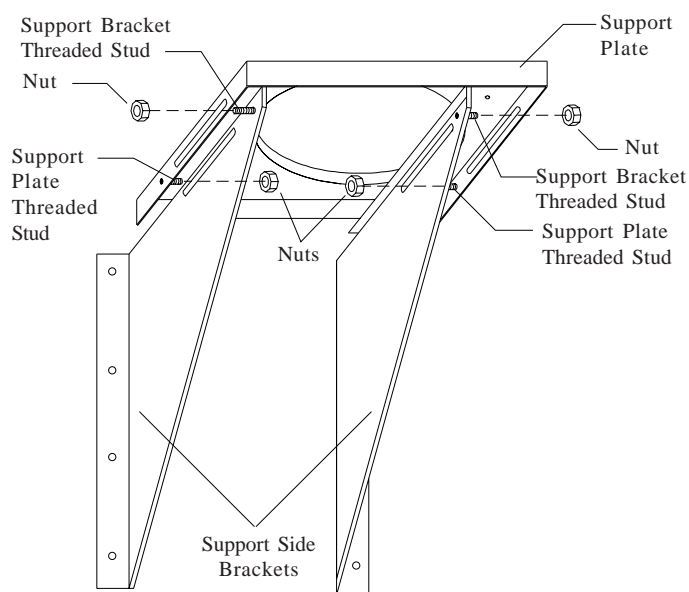

FIG. 9 - UNDERSIDE VIEW OF THREADED STUDS AND NUTS
The adjustable Wall Support will allow for an adjustment of 2" to 6" from a vertical wall. Threaded studs are factory installed on both side brackets and the support plate for fast and easy assembly (see Figure 9).
5. Assemble the side Brackets (point of triangle facing down) to the Support Plate (flange up) by inserting the threaded studs into the oblong slots. Install the supplied nuts on the threaded studs. (see Figure 9 & 10).